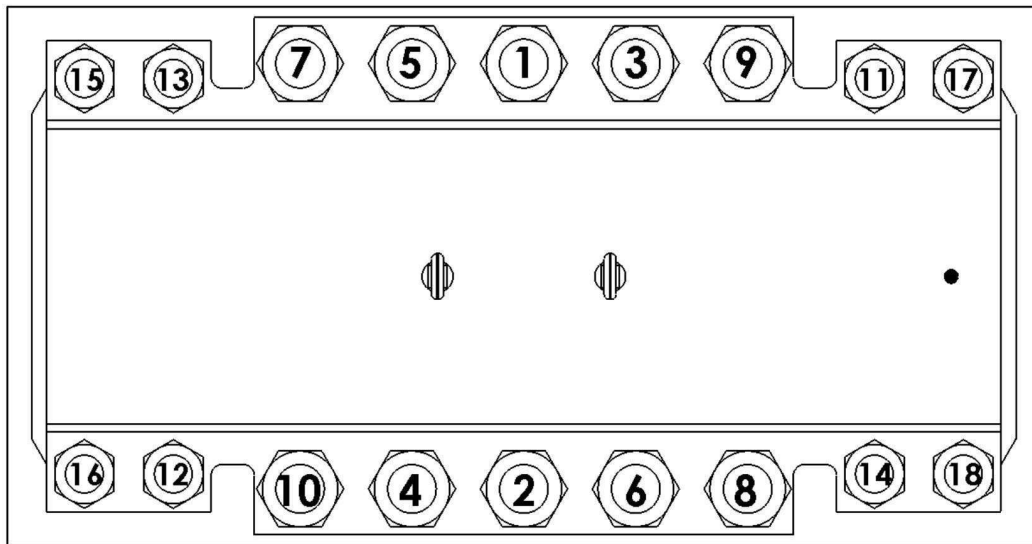

Figure 7
7. Torque all of the studs uniformly as indicated by the corresponding value per stud size from the **Torque Values for Sealing Section** in the *PLIDCO Torque Chart for Clamp+Sleeves* located on the last page of these instructions. The best results are obtained by maintaining an equal gap between the sidebars while tightening the studs. Ensure there is full nut engagement by maintaining a minimum of 1/4 inch (6.4 mm) of the studs extending beyond the nuts. The sequence for torquing the studs should follow the pattern as shown in Figure 7, and should be executed repeatedly as follows: